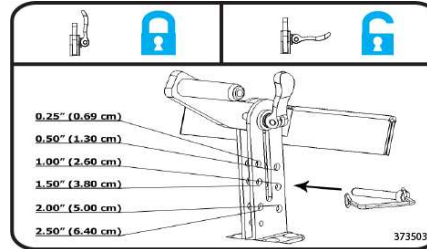

Fig. 2
1. Choose a depth of cut. See instruction label on the unit (see Fig. 2). Note: Sod should be cut leaving a minimum amount of dirt (1/4"-3/8") attached to the roots. This minimizes its weight for removal and encourages faster growth when reused.